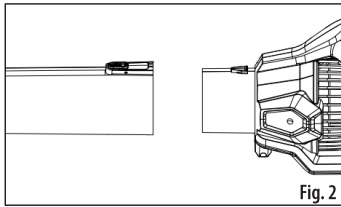

Fig. 2
2. Align the tube with the lug on the blower housing (Fig 2).